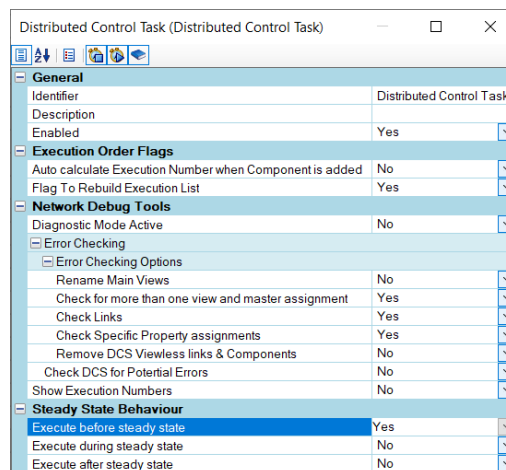

Figure 2: DCS Solver Steady State Behaviour Settings.
- Added steady state operation for DCS components. The DCS components can propagate their inputs before or after steady state. The Execute before steady state option ensures that the control system values are initialised and passed to the flow components before the steady state solution is calculated. This results in a smooth change in controlled values when the transient solution starts. The DCS components can also be executed during steady state. In this case, the DCS components will execute as if a transient is being executed using the time step specified in the Scheduler (or Time Step settings). The Steady State behaviour settings for the DCS can be found on the DCS Solver, as seen in Figure 2. By default, the Execute before steady state option will be enabled for new projects and it will be disabled for older projects.